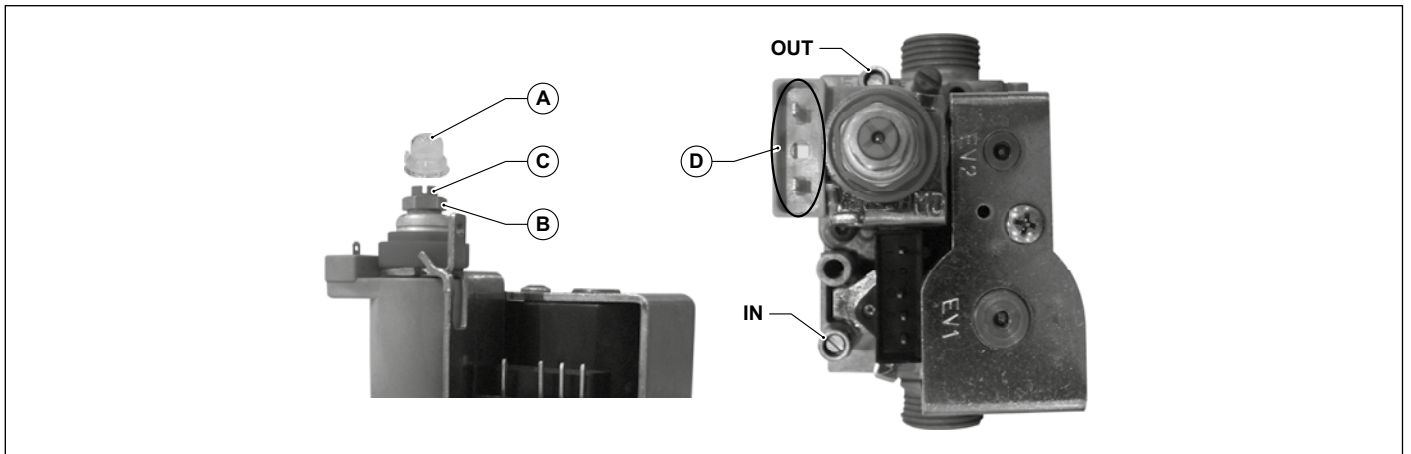

Fig. 23 SIT 845
- To adjust the pressure, hold the brass nut **B** in place using a 10mm spanner (fig. 23, fig. 24 or fig. 25) and turn the plastic screw **C** CLOCKWISE to increase the pressure, or ANTICLOCKWISE to reduce it;